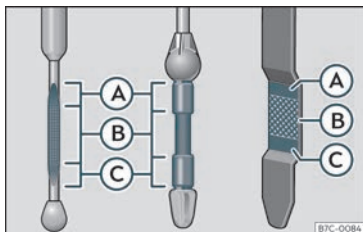

Fig. 215 Engine oil dipstick.
- Then pull it out once more and check the oil level»» **Fig. 215**. Top up with engine oil if necessary.
- When the oil level reaches at least zone »» **Fig. 215 (B)**, unscrew the engine oil filler cap carefully »» ⚠.
If the oil level is above area»» Fig. 215 , do not start the engine. This could result in damage to the engine and catalytic converter. Contact a specialised workshop.
The oil level must never be above zone »» Fig. 215 . Otherwise oil can be drawn in through the crankcase breather and leak into the atmosphere via the exhaust system.